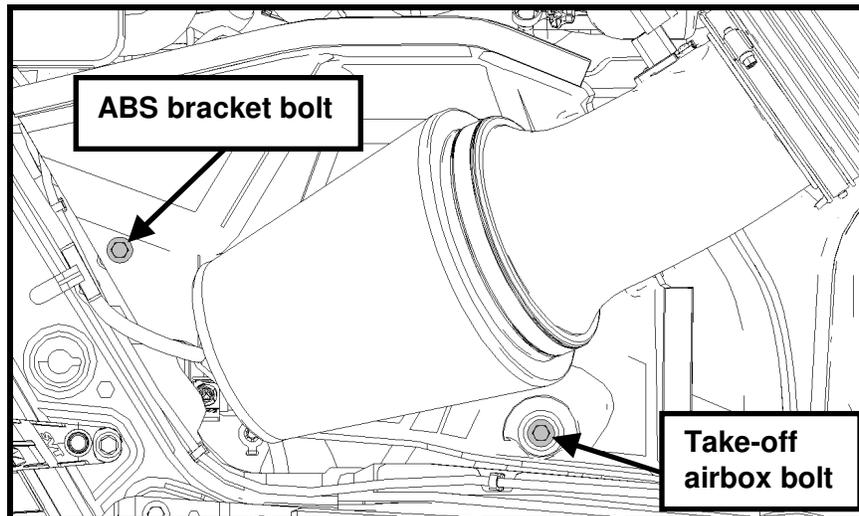

Fig. 35
- STEP 19:** Lower the complete airbox assembly into the vehicle using the two pegs as guides into the rubber grommets. Use the take-off airbox bolt and newly supplied ABS bracket bolt (N808920) to secure the airbox in the vehicle. Torque the M6 bolt to 10 Nm (88 lb in), and the M8 bolt to 25 Nm (221 lb in) (See Fig. 35).